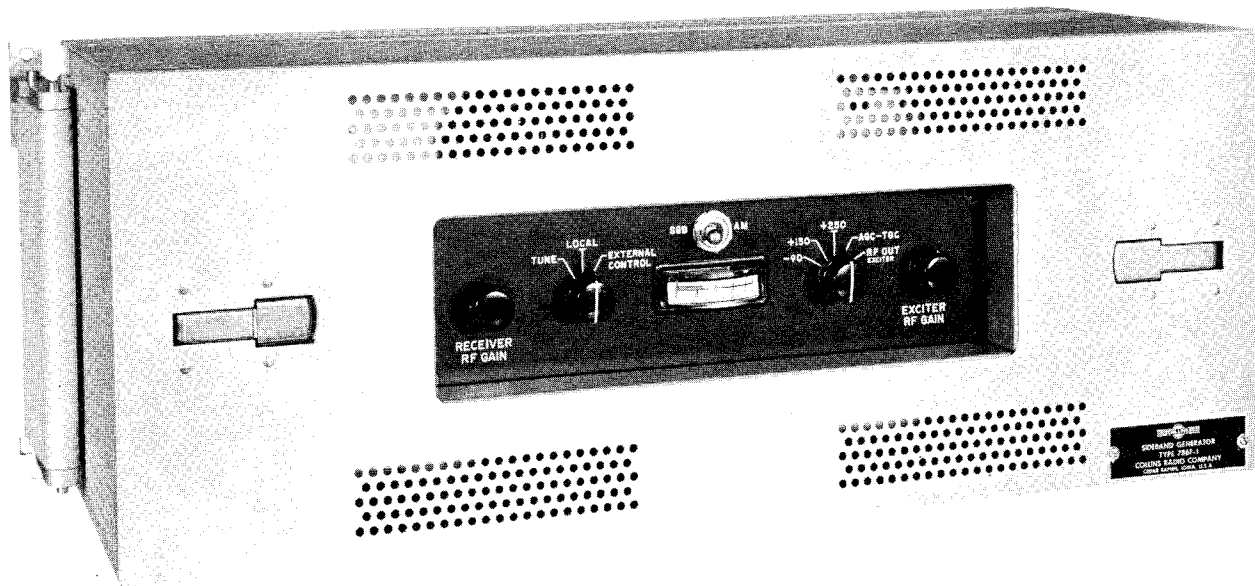

Figure 1-4. Amplifier-Converter-Modulator AM-2064/URC
d. AMPLIFIER-CONVERTER-MODULATOR AM-2064/URC. - (Refer to figure 1-4.) The AM-2064/URC is used to translate audio frequencies to i-f during transmit operation and i-f to audio frequencies during receive operation. The unit contains upper-sideband, lower-sideband, and carrier-reinsertion (AM) i-f/a-f amplifiers; a transmitter gain control (tgc) circuit; and a carrier generator. Audio